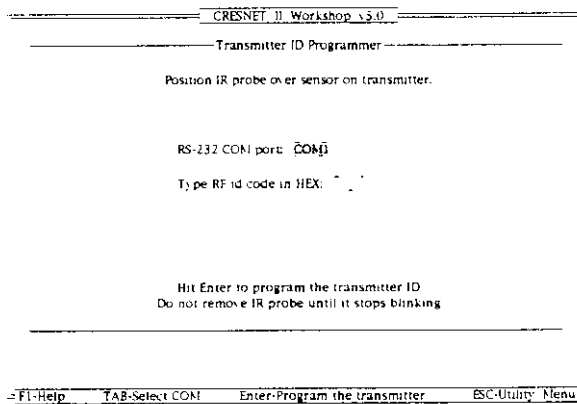

Figure 5. Transmitter ID Programmer, Workshop
- From the UTILITY MENU, highlight TID and depress ENTER. The Transmitter ID Programmer, illustrated in figure 5, appears on the display.